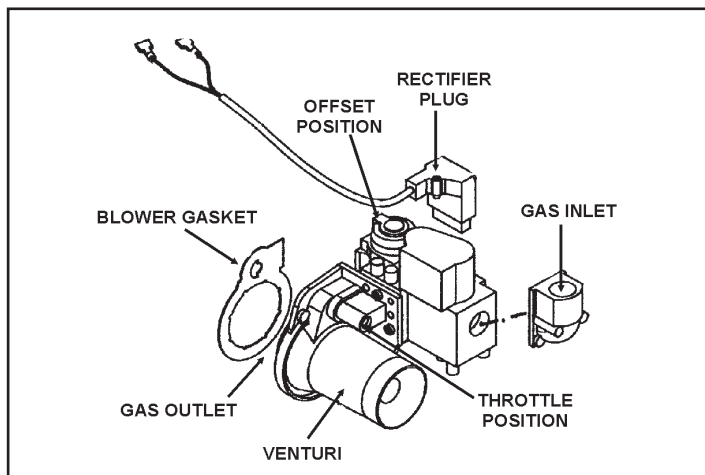

FIGURE 14a. AHCG3/HCG3100T199 & AHCG3/HCG3100T250 Models Only
1. When connecting gas pipe to unit, apply wrench to flange only. Note: Do not use wrench on gas valve or gas bracket. See Figure 14a, b, c.